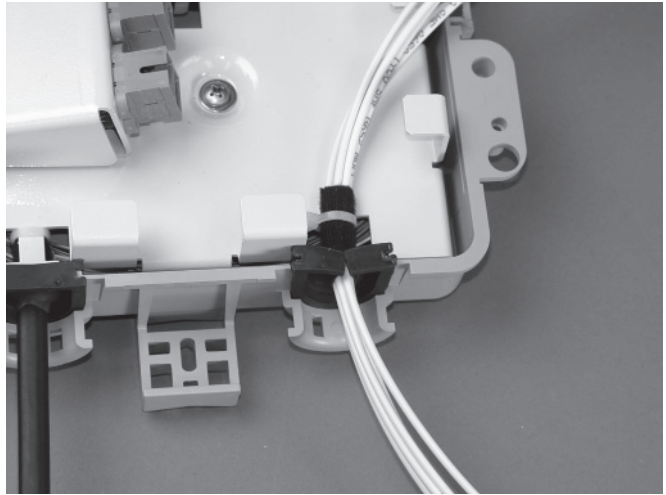

Figure 9
- Secure the jumpers to the lower port of the tray as shown with the supplied tie wrap, making sure that the felt tape protects the jumpers from the tie wrap. Slide the cable grommet up into place in the box's right port (Figure 9).